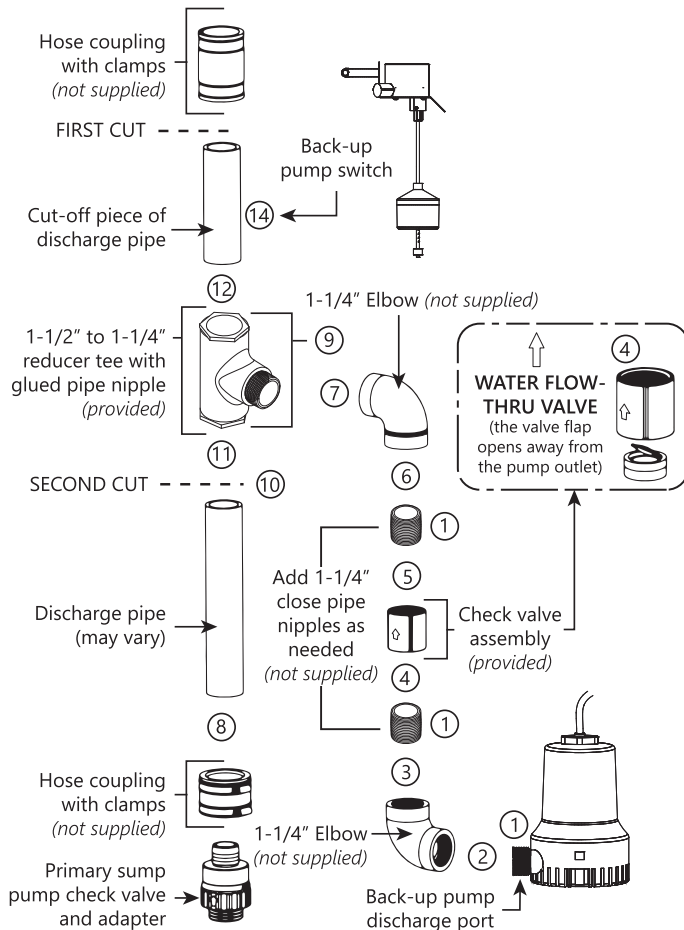

Figure 5. Installation Method B
1. Apply (2) wraps of thread seal tape to all threads.
4. Thread the check valve assembly onto the close pipe nipple. **IMPORTANT:** Make sure the check valve is installed in the correct direction. See the inset drawing in Figure 5.